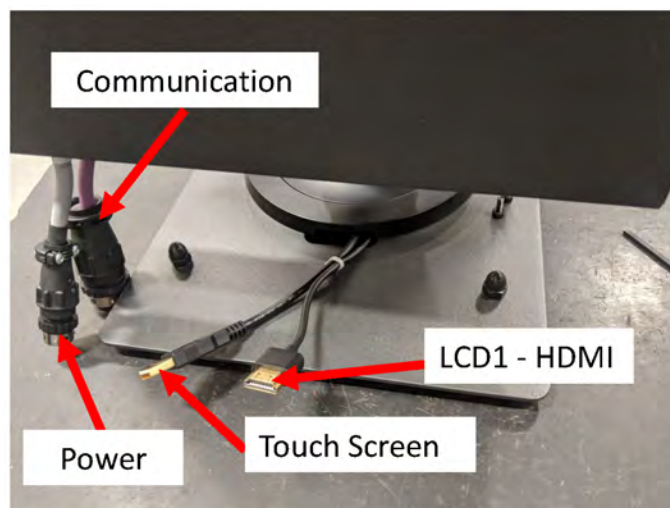

Figure 16-38 Disconnect the Connectors
2. Disconnect the touch screen and LCD1 connectors at the bottom of the MCU and then disconnect the power and communication connectors (refer to Figure 16-38).